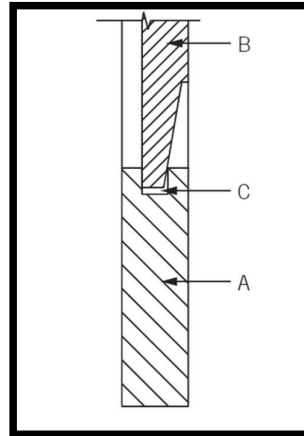

FIGURE 4.5
- 4.5 FIGURE 4.5 below shows a vertical section through the bottom of a panelled door. Study the drawing and answer the questions that follow.